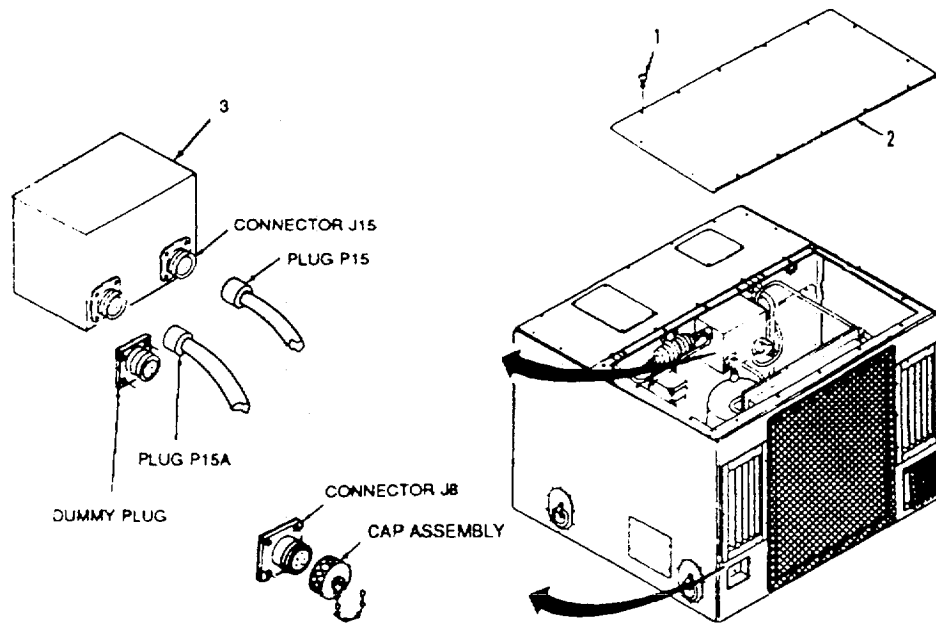

Figure 3-4. Alternate Input Cable Connector (J8) Locations.
**3-11. ALTERNATE INPUT POWER CABLE CONNECTOR (J8) LOCATIONS.** If input power cable connection is to be relocated to the alternate location at the rear of the unit, perform the following steps. (Refer to Figure 3-4).
- a. Remove fourteen screws (1) and rear panel (2).
- b. Remove plug P15 from connector J15 located on EMI filter assembly FL1 (3).
- d. Install plug P15A into connector J15 on EM filter assembly FL1 (3).
- g. Install rear panel (2) and fourteen screws (1).